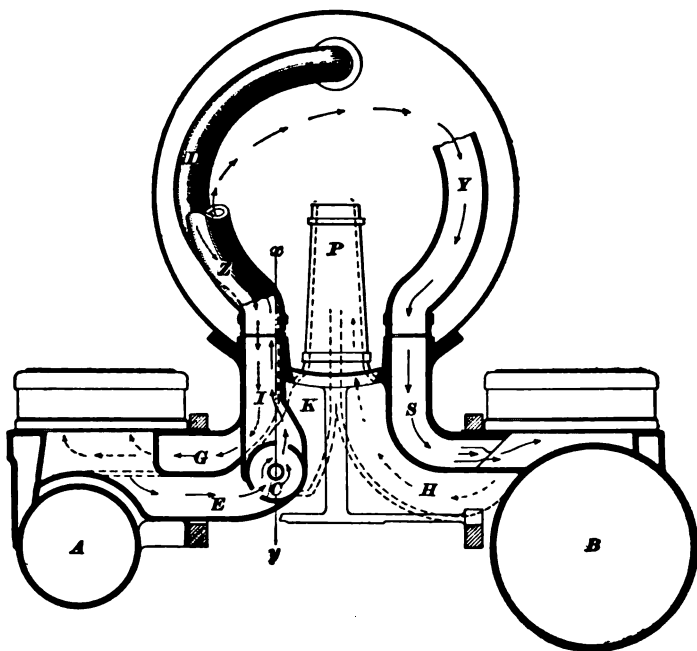
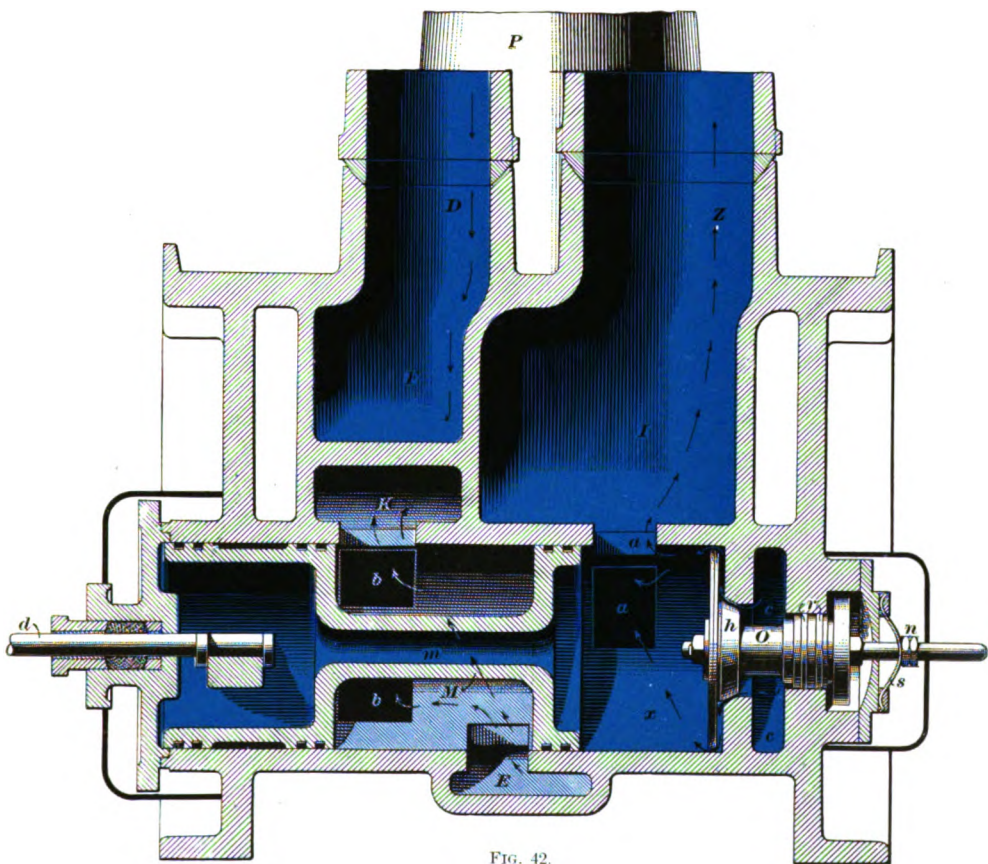
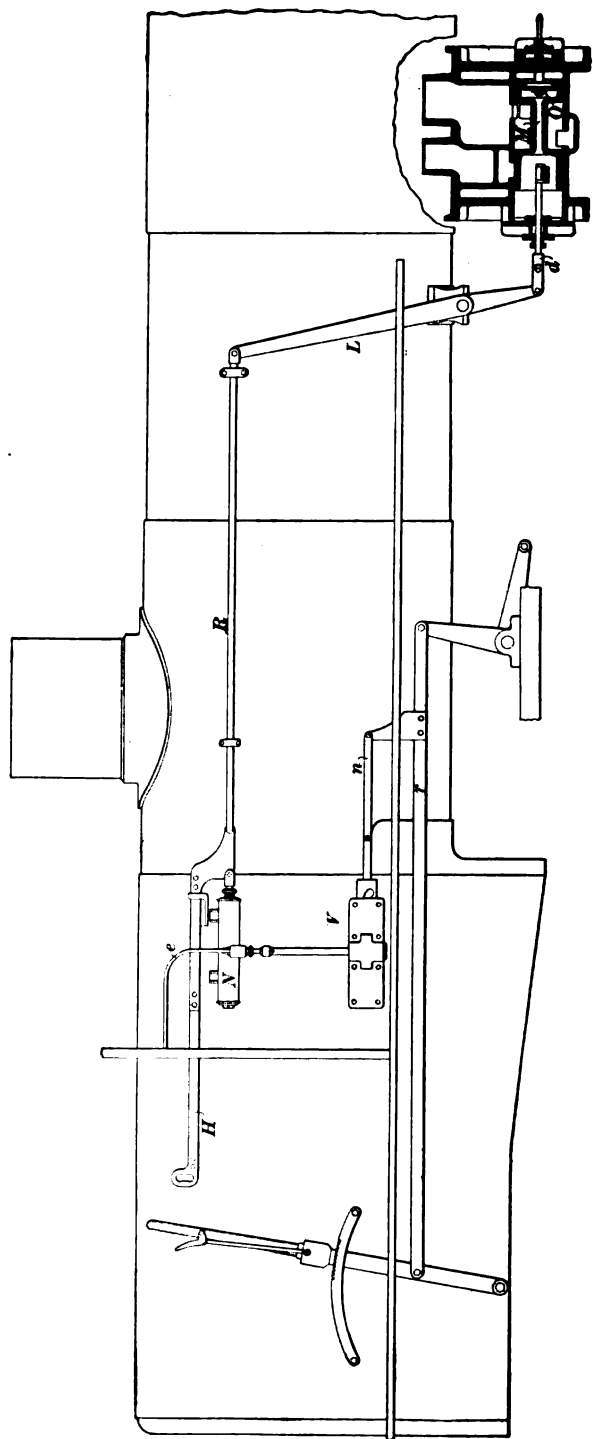

FIG. 41.
FIG. 42.
FIG. 43.
**90. General Arrangement.**—A cross-section of the cylinders and saddle of a **Pittsburg compound**, taken through the middle of the receiver *YZ*, is shown in Fig. 41, in which *A* and *B* are the high- and low-pressure cylinders, respectively, and *C* is the intercepting-valve chamber. In this type of compound there is but one steam pipe *D*; it connects with a passageway back of chamber *I* (indicated by dotted lines) that divides into two branches at *G*, these branches leading to opposite ends of the steam chest. The exhaust passage *E* from the high-pressure cylinder leads to the under side of the intercepting valve in *C*, while directly above is the chamber *I* that connects with the end *Z* of the receiver. A passage *K* (indicated by dotted lines), back of the chamber *I*, connects one end of the intercepting valve with the exhaust pipe *P*. This is the emergency exhaust port through which the high-pressure steam exhausts during the time the engine is working simple. The end *Y* of the receiver connects with a steam passage *S* that divides into two branches which lead to opposite ends of the high-pressure steam chest. The exhaust passage *H* (indicated
**91. Arrangement of the Valves and Passages.**—A section of the high-pressure cylinder saddle, taken on the line *xy*, Fig. 41, showing the arrangement of the different valves and passages, is given in Fig. 42. In the figure, *M* is the intercepting valve and *O* the reducing valve. The chamber *I* connects with the end *Z* of the receiver. The passageway *F* connects with the steam pipe *D* and divides into two
branches *G*, as explained in connection with Fig. 41; hence, steam flows from the passage *F* directly into the two ends of the high-pressure steam chest. The passage *K* is the emergency exhaust passage, and leads into the main exhaust passage, as already explained. A short passageway connects chamber *c*, back of the reducing valve, with the steam passage *G* shown in Fig. 41; hence, cavity *c* is supplied with steam at the same pressure as the high-pressure steam chest.
**92. Intercepting Valve.**—This valve is in the form of a piston valve, and is so designed that it separates the ports *a* leading into chamber *I* from the ports *b* leading into the emergency exhaust passage *K*, although it can be made to connect the high-pressure exhaust port *E* with either port *a* or port *b* by simply changing its position. When the valve is in its backward position, as in Fig. 42, the cavity of the valve connects the exhaust port *E* from the high-pressure cylinder with the emergency exhaust port *K*, while, at the same time, the valve cuts off the ports *a* leading into the receiver. When in its forward position, it covers the ports *b* and connects port *E* with ports *a*. In order that the valve may be properly balanced, a passage *m* is made through it lengthwise, thus insuring the same pressure on both ends of the valve.
**93. Operation of Intercepting Valve.**—The means used to operate the intercepting valve are indicated in Fig. 43. The valve spindle *d* is connected, by means of the lever *L* and rod *R*, to a reversing mechanism *N* called the reversing cylinder. The object of this mechanism is to relieve the engineer of the necessity of converting the engine from simple to compound, or vice versa, by hand. A hand arrangement *H*, however, is provided for use in case of accident to the reversing cylinder. The steam for operating the reversing cylinder is supplied through the pipe *e*, and the supply is controlled by a valve operated by means of the rod *n*. This rod is so connected to the reach rod *r* that it operates a reversing valve *V*, so as to admit steam into the reversing cylinder and convert the engine into a simple one if the reverse lever is
**94. Reducing Valve.**—The reducing valve *O* is shown open in Fig. 42, and closed in Fig. 43. It is provided with a ground-joint seat at *h*, Fig. 42, two packing rings *r*, and a spring *s*, the tension of the latter being adjusted by the nuts *n*. The tension of this spring should be only sufficient to prevent the valve rattling during the time the engine is running with steam off, and the valve should be easily moved by the hand against the action of the spring. The area of the valve *O* acted on by the steam in the chamber *x*, during the time the engine is working simple, is so much greater than that acted on by the steam in chamber *c* that the valve is closed when the pressure in chamber *x* increases to a certain proportion (sometimes less than a half) of that in chamber *c*. In other words, the reducing valve maintains a pressure in chamber *x* something less than half that in chamber *c*, thereby equalizing the total forces acting on the high-pressure and low-pressure pistons.
**95. Working Simple.**—In this style of compound, the intercepting valve is wholly non-automatic, and it must be moved from the simple to the compound or from the compound to the simple position by means of the reversing cylinder *N* or the hand arrangement *H*, Fig. 43. So long as the reversing cylinder *N* is operative, the act of placing the reverse lever in either corner will cause the intercepting valve to be moved into the simple position (the handle *H* in its forward position); whereas moving the reverse lever one or more notches from the corner causes the intercepting valve to be moved into compound position, the handle *H* then going to its backward position.
With the intercepting valve in the simple position, Fig. 42, the emergency exhaust port *K* is connected with the high-pressure exhaust passage *E* through the cavity of the valve *M* and the port *b*, and communication between the receiver *I* and the port *K* or *E* is cut off by the valve. When the throttle is opened, steam flows from the boiler into the high-pressure steam chest, and also into chamber *c*. The steam in the steam chest is used in the high-pressure cylinder and is then exhausted directly into the atmosphere through the exhaust port *E*, the emergency exhaust port *K*, and the exhaust pipe *P*, as indicated by the arrows. The steam in chamber *c* opens the reducing valve *O* and flows through chamber *x* and the port *a* into the receiver (as indicated by arrows), and thence into the low-pressure steam chest; after being used in the low-pressure cylinder, it is discharged into the atmosphere through the exhaust pipe *P*. The pressure of the live steam in the receiver is regulated to the proper amount by the reducing valve *O*.
Sometimes, as, for instance, when switching, it is desirable to work the engine simple at different points of cut-off; that is, with the reverse lever in notches other than the corner notch. To accomplish this, first place the reverse lever in the corner, so that the intercepting valve will be moved into the simple position, and then close the stop-cock (not shown in Fig. 43) in the reversing-cylinder supply pipe *e*, so as to cut off the supply of steam to the reversing cylinder; the intercepting valve will then remain in the simple position, regardless of the position of the reverse lever. Opening the stop-cock in the supply pipe will again make the reversing cylinder operative.
thence passing through the receiver into the low-pressure cylinder, and out into the atmosphere through the exhaust passage *H* (Fig. 41) and the exhaust pipe.
**102. Broken Main Rod: Low-Pressure Side.**—In the event of this rod breaking, move the reverse lever to the corner to convert the engine to a simple one, and close the stop-cock in the steam pipe to the reversing cylinder, so that the engine can be worked simple. Take down the broken rod, block the crosshead securely, place a piece of wood under each side of the reducing-valve spring *s*, Fig. 42, and tighten up the nuts *n* until the spring pinches the wood sufficiently hard to hold the reducing valve shut against the pressure of the steam in chamber *c*; proceed, using the high-pressure cylinder only.